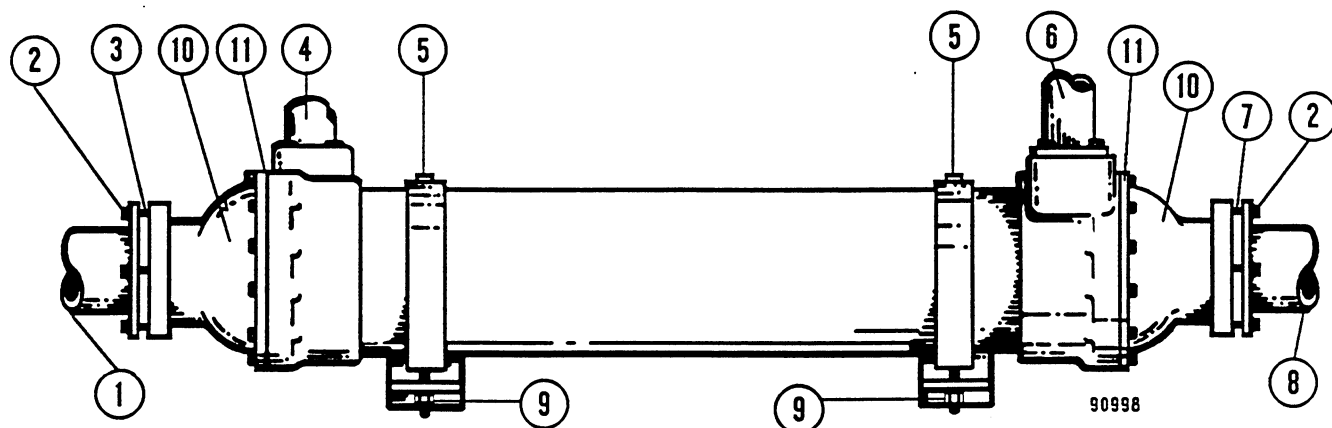

FIGURE 3-1. TRANSMISSION COOLER
1. To gain access to the heat exchanger core, remove the capscrews and bonnet (10, Figure 3-1) from each end of the assembly. Remove and discard sealing gasket (11).